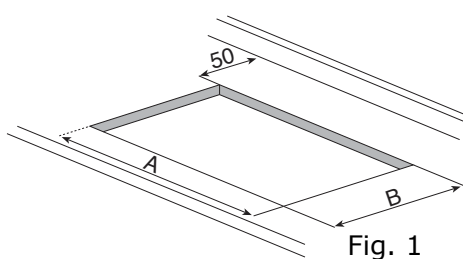
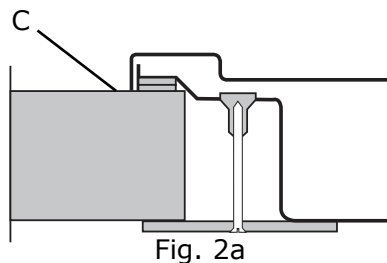

Fig. 1
Fig. 2a
All built-in tops are studied to be fitted to units made from any type of material and with a thickness that varies from 3 to 4 cm. In order to avoid an overheating of the lateral and rear walls, it is recommended to make the hole in the top at a minimum distance of 45-50 mm, following the dimensions in the table (fig.1). To avoid liquid infiltrations under the worktops, it is necessary to apply a gasket which is supplied with the hob.
Fixing to the units is carried out with clamps supplied with the appliance (fig.2a, 2b, 2c).
The built-in appliances must be inserted (see fig. 1), fixed (see fig. 2a, 2b) with brackets and the special sealing gasket (C) between unit and appliance. The cooking hob can also be fitted in the unit with an oven underneath, paying attention to the power cable's route that must not come into contact with hot surfaces (50°C above room temperature).